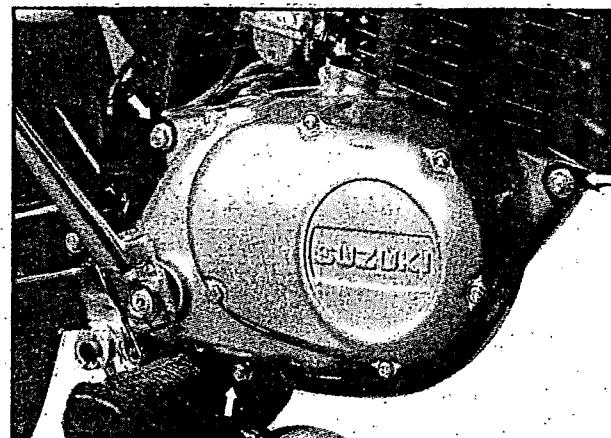

Fig 3.16
- Loosen the three engine mounting bolts (fig 3.16)